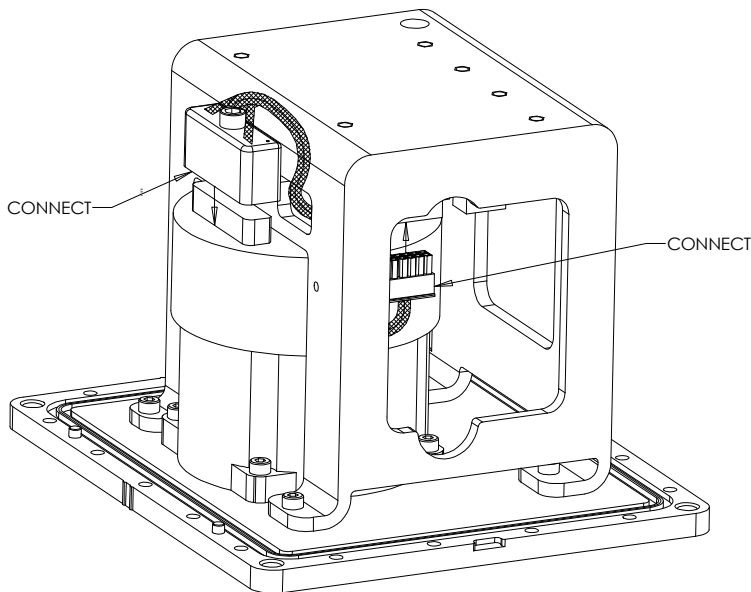

Figure 70: Making Connections
3. Connect the cable harness to the board assembly and IMU, routing it as shown in *Figure 70*. Ensure latching of the cable connector housings and fasten the 6-32 screw at the IMU end using a 5/32" hex bit. Do not use thread-locking fluid and do not overtighten.